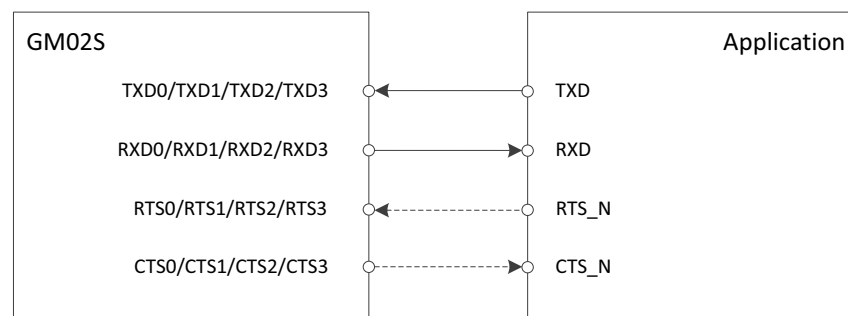

Figure 2-8: UART Convention and Flow Control
- CTS0, CTS1, CTS2, CTS3: resp. UART0, UART1, UART2, UART3 flow control, Clear-To-Send, active low, of the GM02S. To be connected to the CTS of the remote UART device. See Figure 2-8.
- RTS0, RTS1, RTS2, RTS3: resp. UART0, UART1, UART2, UART3 flow control, Ready-To-Send, active low, of the GM02S. To be connected to the RTS of the remote UART device. Provision a 1 kOhm pull-down on RTS pin when flowcontrol is not used. If it is connected to an external component (like a RS232 driver), the user should make sure that this component will present a low level to the GM02S. See Figure 2-8.
Figure 2-8 represents the typical implementation for the hardware flowcontrol.